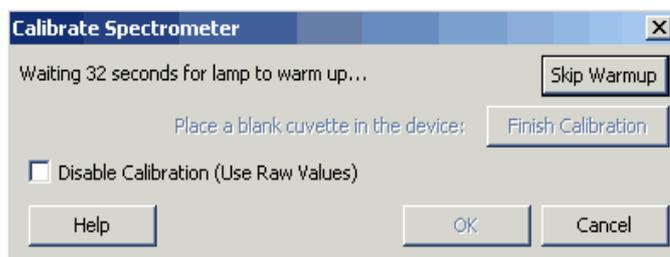

Figure 2. Calibration stores a reference spectrum.
4. To calibrate the Spectrometer, use a cuvette filled about $\frac{3}{4}$ full with water for your reference. Avoid touching the sides of the cuvette are in the light path. Choose Calibrate → Spectrometer from the Experiment menu. The calibration dialog box will display the message: “Waiting...60 seconds for lamp to warm up.” (see Figure 2) The minimum warm up time is one minute.